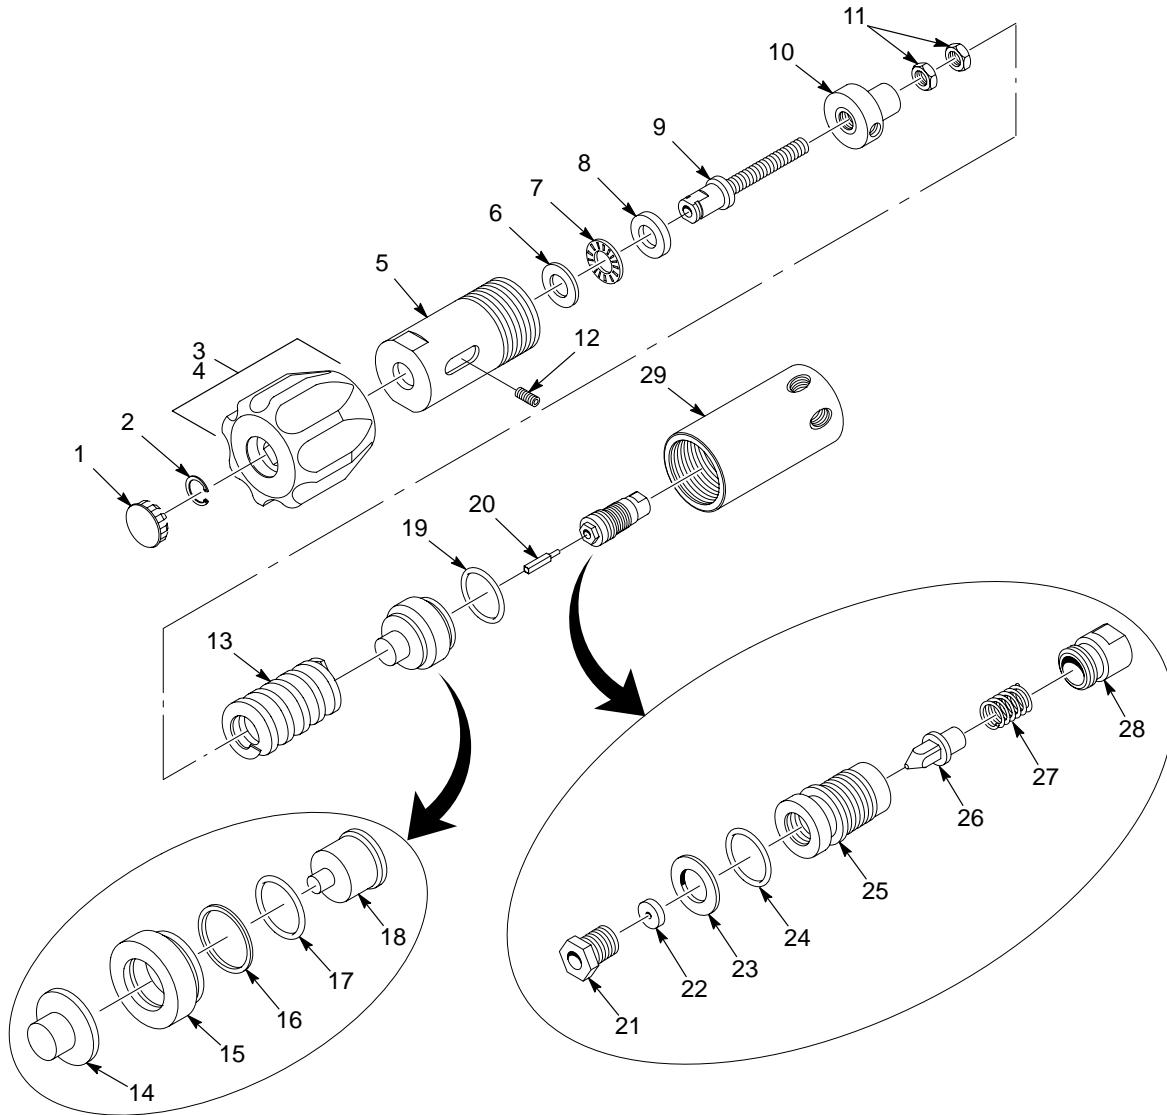

Figure 2 Exploded View of Regulator
1. See Figure 2. Pry off the button plug (1) from the top of the hand knob (4) with a flat-head screwdriver.
2. Using external snap-ring pliers, remove the retaining ring (2) from the adjusting screw (9). Remove the hand knob.
3. Place the regulator body (29) in a vise. Unscrew the bonnet (5) using a 1⁵/₈-in. open-end wrench. Remove the load spring (13) and the spring pad (14) from the regulator body.
4. Unscrew the set screw (12) that secures the adjusting screw assembly (9 through 11) within the bonnet (5). Remove the adjusting screw assembly, washers (6, 8), and thrust bearing (7). The washers and thrust bearing may stick to the bonnet because of the lubricant applied.
5. Pull the piston assembly (15 through 18) out of the regulator body, using pliers if necessary. Be careful not to drop the pin (20), because it is loosely placed below the piston and within the valve assembly seat retainer (21). Remove the pin.
6. Using a 1/2-in. socket wrench, unscrew the valve assembly (21 through 28) from the regulator body (29).
1. See Figure 2. Place the shoulders of the valve body (25) (where the O-rings and plastic snap ring are) into a vise.
2. The seat retainer (21) has left-hand threads. Unscrew the seat retainer using a 1/2-in. wrench.
3. Unscrew the spring retainer (28) from the bottom of the valve body (25). Remove the spring (27) and main valve (26).
4. Replace the main valve or soft seat (22), if necessary. Screw the spring retainer, spring, and main valve into the valve body until finger tight.
6. Remove the O-ring (24) and plastic snap ring (23) from the valve body. Install a new, lubricated O-ring and snap ring on the valve body.
1. See Figure 2. Remove the spring pad (14) from the piston assembly (15 through 18), if not already removed.
2. Snap the piston (18) out from the back-up adapter (15).
3. Remove both O-rings (17, 19) and the back-up ring (16). Install new, lubricated O-rings in the back-up adapter and on the bottom rim of the back-up adapter. Install a new back-up ring in the back-up adapter.
See Figure 2. Typically, you do not need to disassemble the adjusting screw assembly (9 through 11). Be sure that the threads of the screw (9) are well lubricated and that the two hex nuts (11) are tightened against each other. If they are not tight, they could vibrate loose during operation.
1. See Figure 2. Screw the valve assembly (21 through 28) into the regulator body (29) and tighten to 11.3-12.4 N•m (100-110 in.-lb).